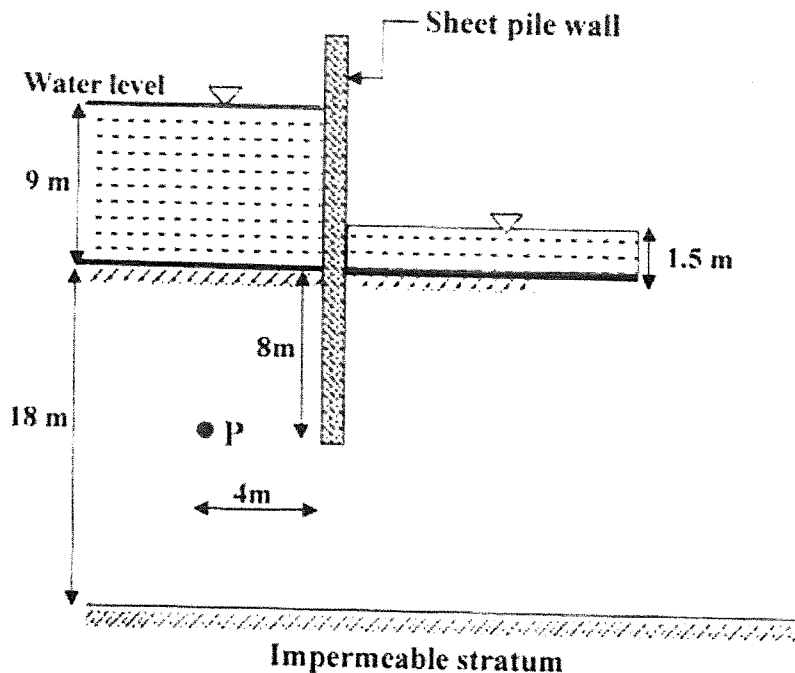

Figure Q3
- c) A soil stratum has a permeability of,  $k = 5 \times 10^{-9}$  m/s overlying an impermeable stratum at a depth of 18 m below the ground surface as shown in Figure Q3. A sheetpile is driven to a depth of 8 m below the soil surface. The water level on the upstream side of the wall is at a height of 9 m above the soil surface and 1.5 m on the downstream side. The point P is located at a depth of 8 m below the soil surface and 4 m away from the sheet pile wall on the upstream side